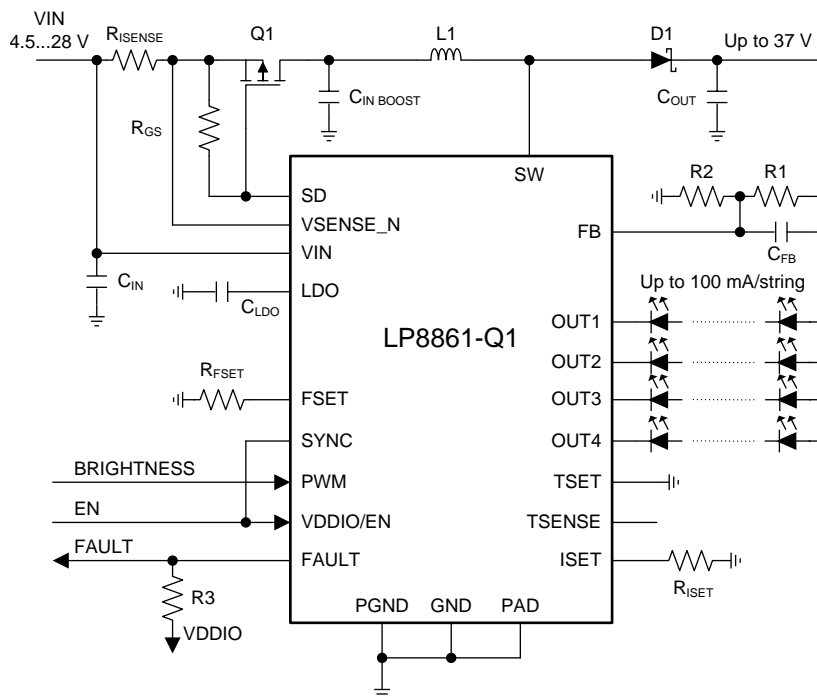

Figure 24. Typical Application for Four Strings 100 mA/String Configuration
The LP8861-Q1 has a control pin (SD) for driving the gate of an external power-line FET. Power-line FET is an optional feature; an example schematic is shown in Figure 24. Power-line FET limits inrush current by turning on gradually when the device is enabled ( $VDDIO/EN = \text{high}$ ,  $V_{IN} > V_{GS}$ ). Inrush current is controlled by increasing sink current for the FET gradually to 230 μA.
Figure 24 shows the typical application for LP8861-Q1 which supports 4 LED strings with maximum current 100 mA and boost switching frequency of 300 kHz.